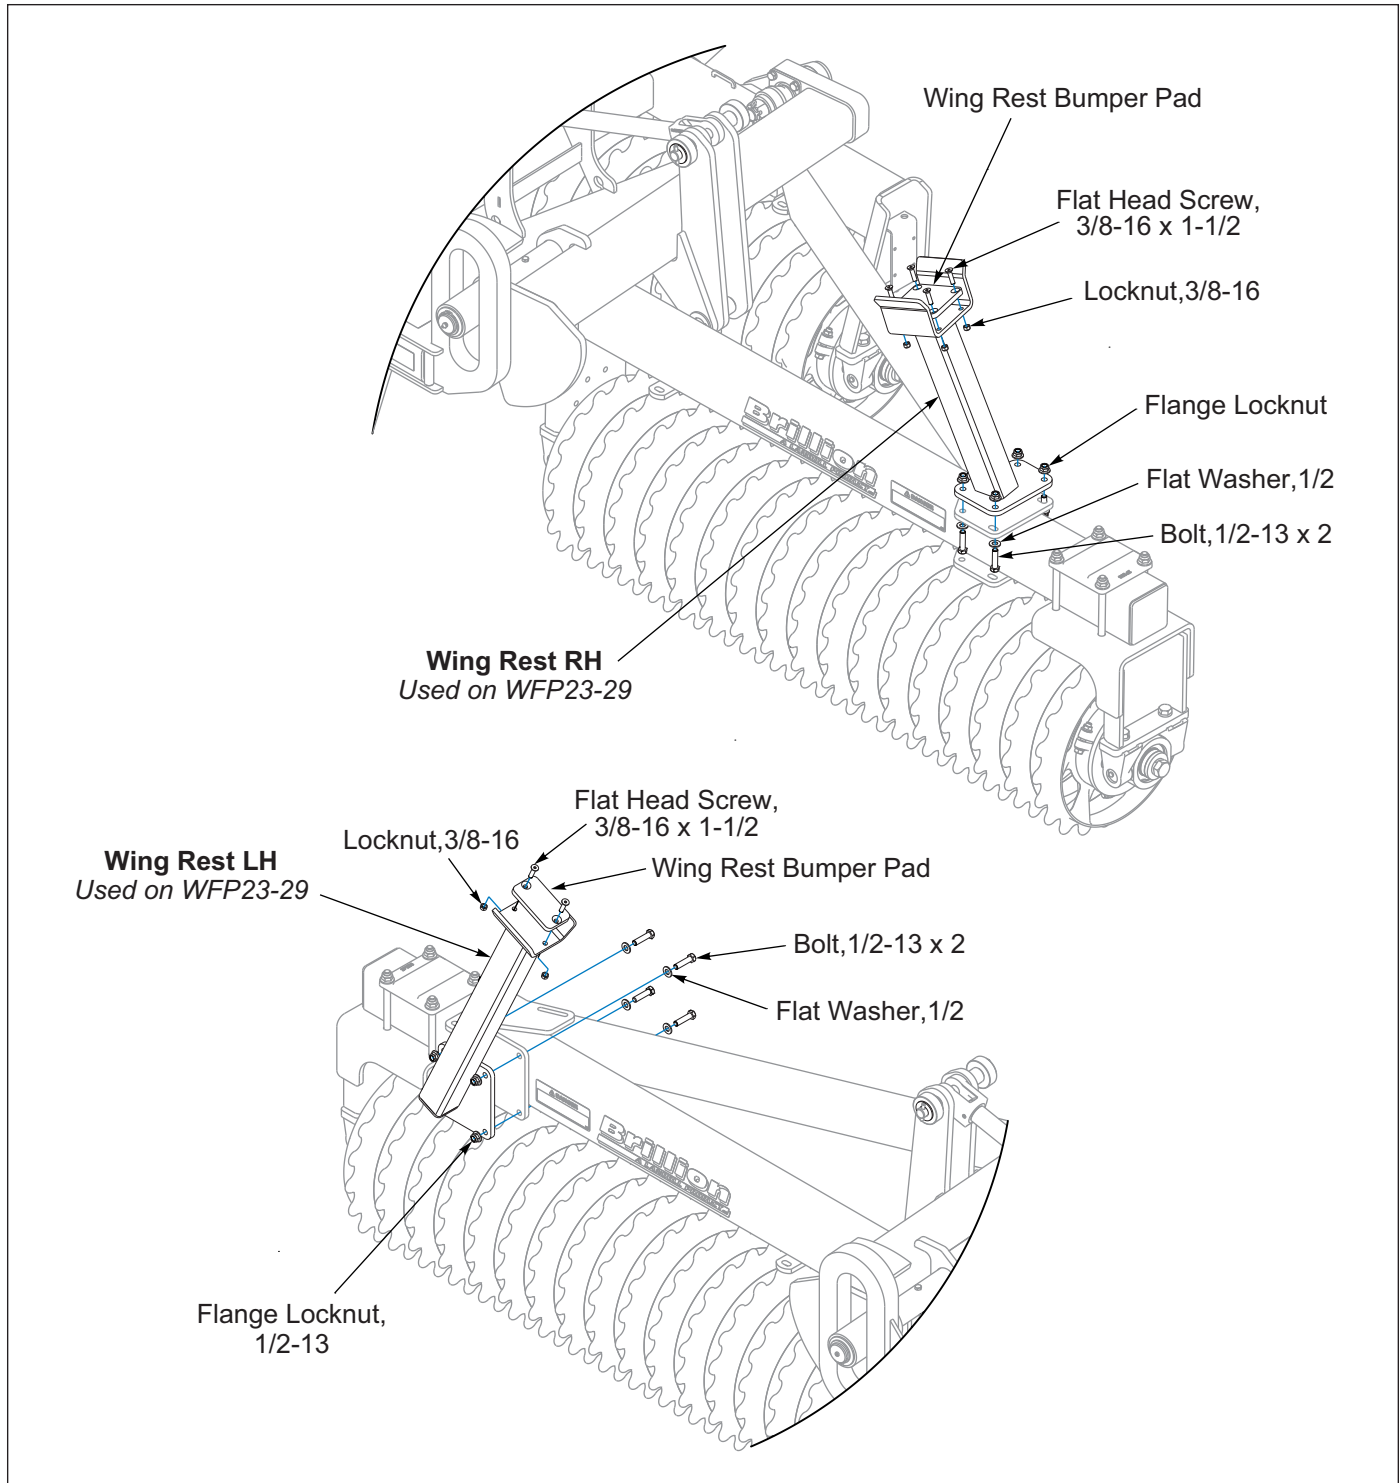

Figure 2-20: Wing Rest Installation, WFP 23-29
1. Install the RH Wing Rest to the RH Wing Frame 4-Hole Plate located on the top of the Wing Frame Tube. Secure with 1/2-13 x 2 Bolts, Flat Washers and Flange Locknuts. **See Figure 2-20.**